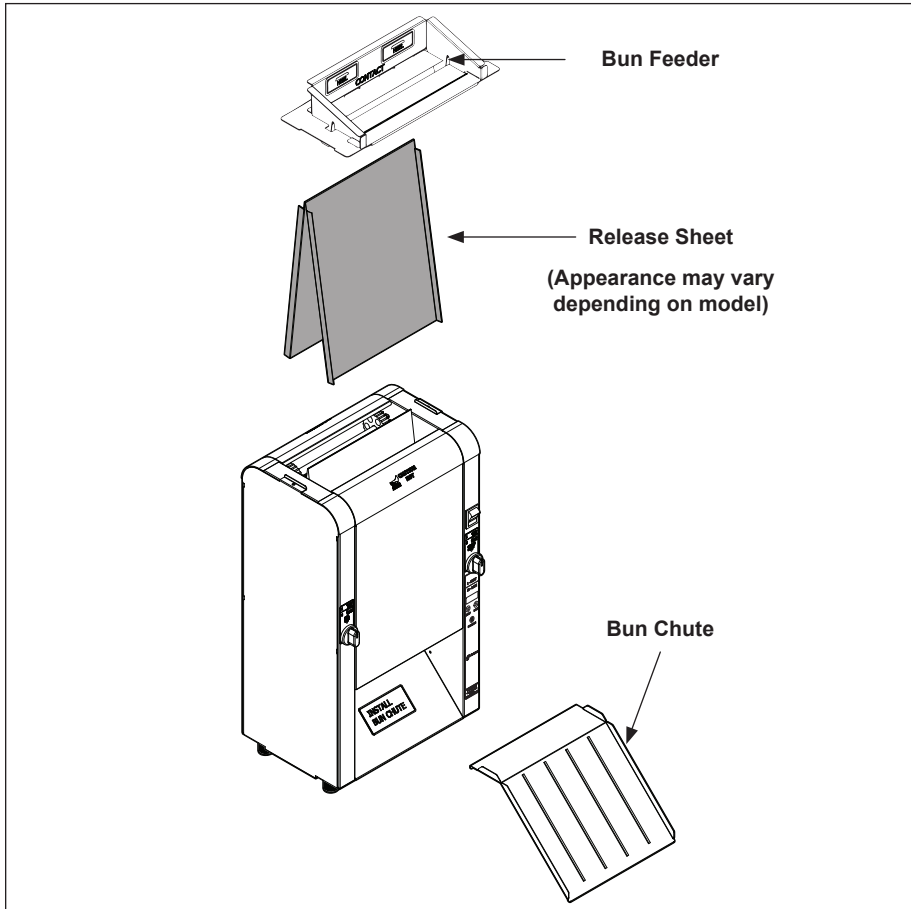

Figure 1. Components
3. Refer to Figure 1. Wash, rinse, and sanitize the Bun Feeder and Bun Chute at the 3 compartment sink and set aside to air dry.
4. Refer to Figure 1. Remove the Release Sheet.
7. Install the Bun Feeder and Bun Chute onto the unit (Figure 1).